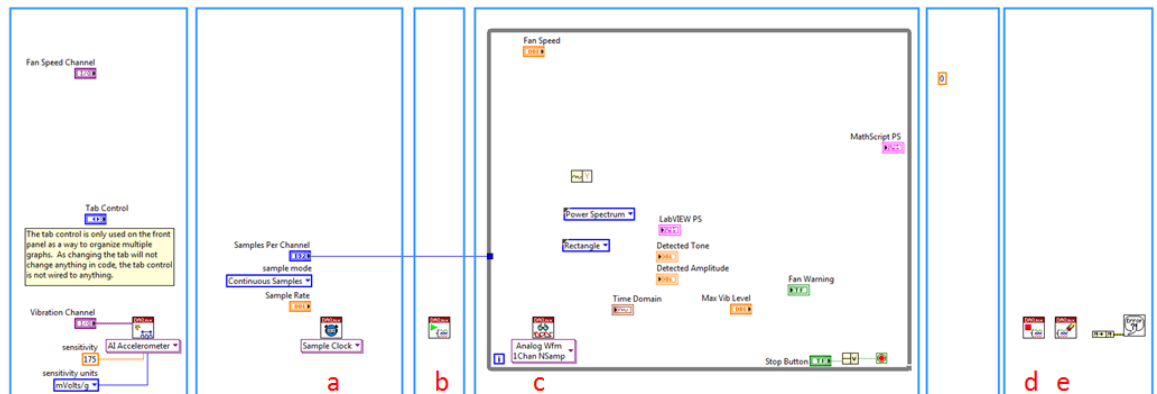

Figure 14. The flow of DAQmx code almost always follows the same pattern
27. Drag the following VIs from the DAQmx palette and place them as shown in Figure 14.